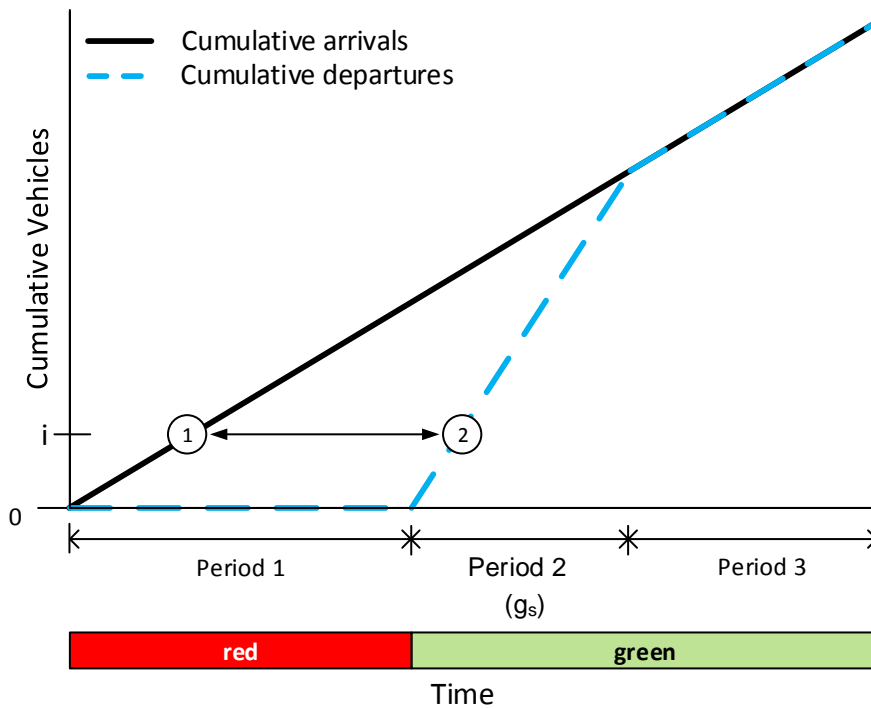

Figure 8. Cumulative vehicle diagram showing delay for vehicle  $i$
- The second measure is the time that each vehicle spends in the system, or the *delay* that it experiences. Consider the horizontal line connecting the arrival line and the departure line for the vehicle (noted as vehicle  $i$ ) shown in Figure 8. Point 1 on the arrival line is the time that the vehicle enters the system; point 2 on the departure line is the time that the vehicle exits the system. The time interval between these two points is the delay experienced by the vehicle.